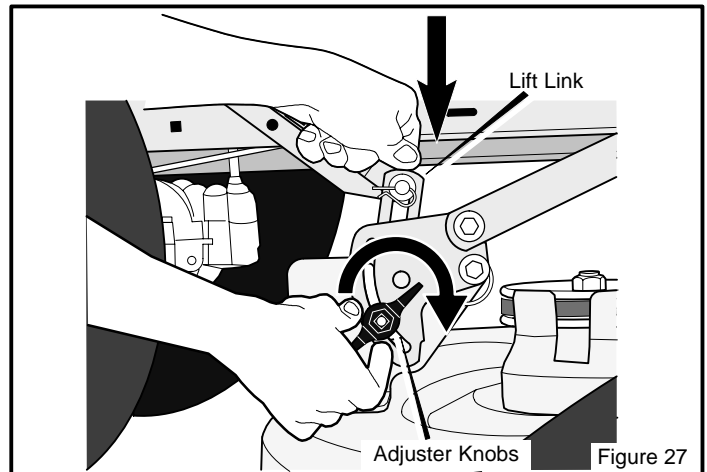

Figure 27
6. Loosen the left and right adjuster knobs (Figure 27). Push down on each side of the mower housing. Make sure both sides of the mower housing are setting on a flat surface. Also, make sure the lift links are loose and can easily move up or down.
7. Push down on the lift links and tighten the left and right adjuster knobs (Figure 27). Make sure the adjuster knobs are tight. If necessary, use a wrench to tighten the adjuster knobs. For plastic adjuster knobs, tighten to a torque of 7 foot pounds (9,5 N-m). For metal adjuster knobs, tighten to a torque of 10 foot pounds (13,5 N-m).